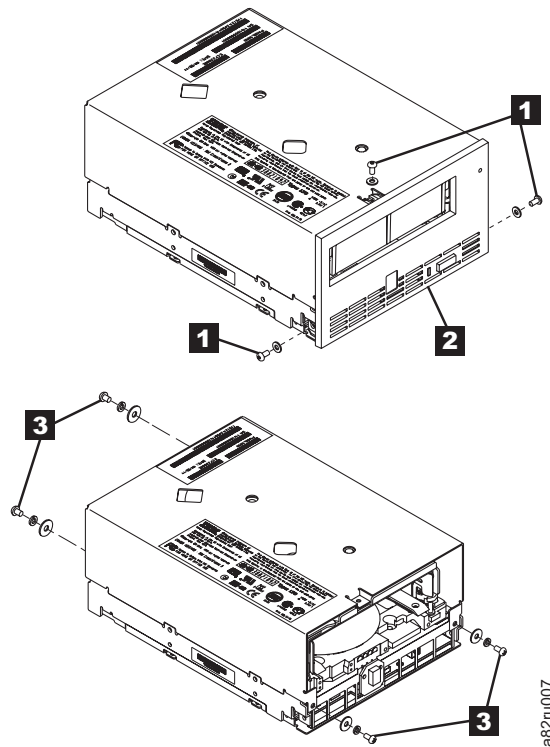

Figure F-6. Removing the cover from the internal drive
- a. Using a Phillips screwdriver, remove the three screws and washers (see **1** in Figure F-6) that secure the bezel **2** to the internal drive, then remove the bezel.